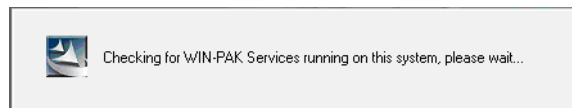
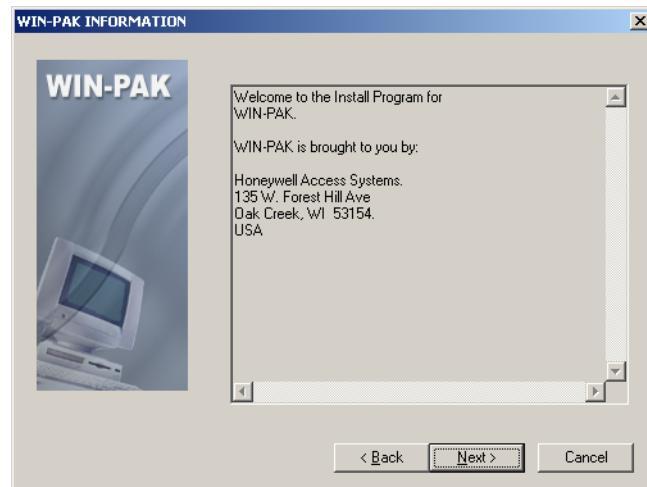

Figure 2-3 Checking the running of WIN-PAK Services
Figure 2-4 Welcome to WIN-PAK Installation
5. Click **Next** to verify that all the services are stopped. Figure 2-3 appears followed by Figure 2-4.